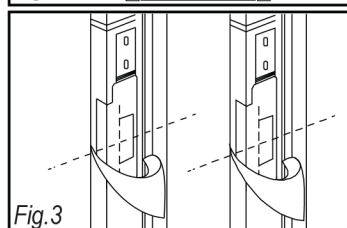

Fig. 3
3. Align the included mounting template to the latch and center lines (see Fig. 3).